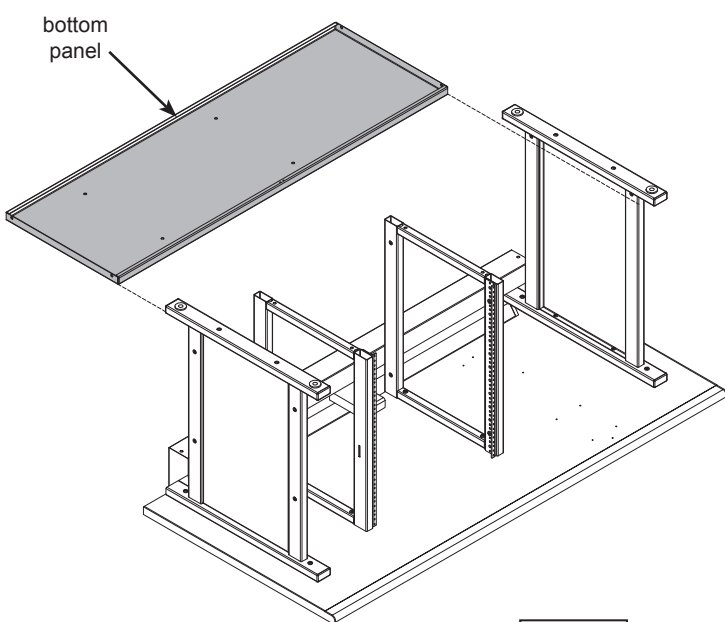

Figure 4A
- A. Slide the bottom panel into place as shown in **Figure 4A** and align mounting holes.